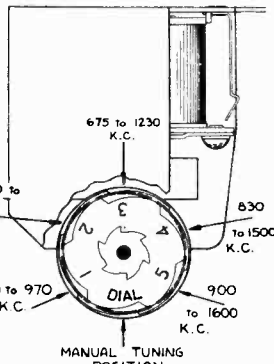

FIG. 3
2. Push the automatic station selector button until the word "Dial" is at the automatic dial window. Tune in manually the station whose call letters are in the No. 1 position on the dial (the lowest frequency station—see Fig. 3) and note the program so that it can be identified. Push the automatic station selector button once, and this station's call letters will appear at the automatic window.